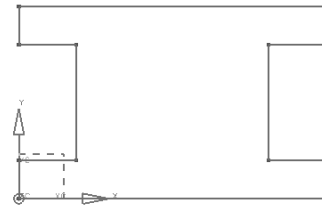

Figure 2-51 Outer profile of the sketch
16. Press the ESC key twice to exit the **Profile** tool. The outer profile of the sketch is shown in Figure 2-51.